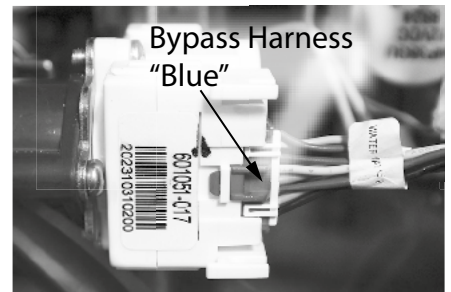

Figure 10 - Bypass valve harness location
- 20 Locate the blue wiring harness labeled "WATER VALVE" at the bypass module and disconnect it. See Figure 10.
- 26 Reconnect the blue wiring harness removed in **Step 20**, to the bypass cartidge See Figure 10.
- 31 Reinstall the metal mounting plate using the four (4) screws removed in **Step 16**.